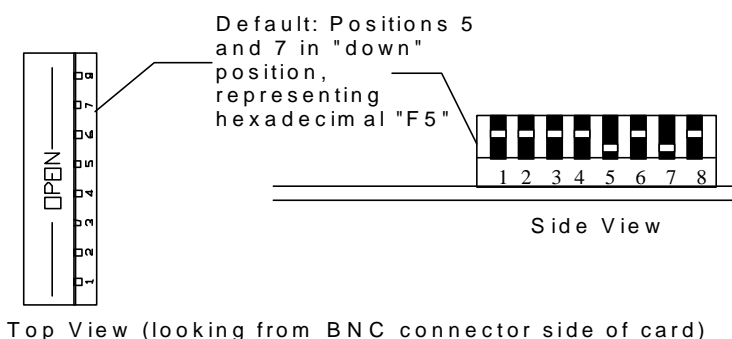

Figure 4. Smart Trac LAN card DIP switch SW1 settings
- **Switch SW1:** (no default). You must set this switch for your own situation. Position 1 is the Most Significant Bit and 8 the Least Significant Bit. If positions 5 and 7 are down as shown in Figure 4, this setting represents a Node ID of hexadecimal address F5.